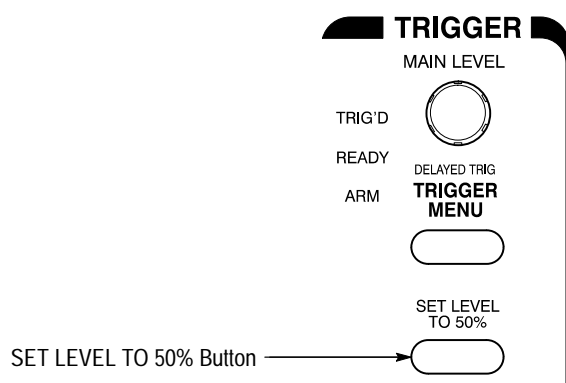

Figure 2–4: Trigger Controls
4. Press **SET LEVEL TO 50%** (see Figure 2–4) to be sure the oscilloscope triggers on the input signal.